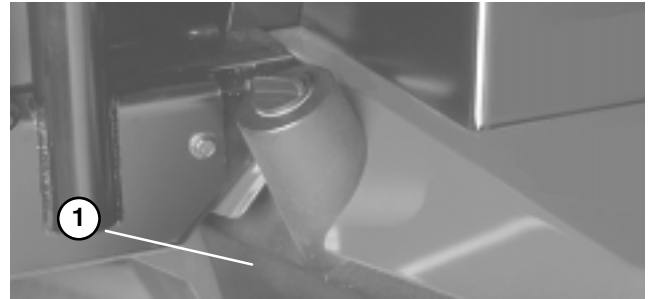

Figure 55
2. Remove drain plug from bottom of reservoir (Fig. 55) and let hydraulic fluid flow into drain pan. Install and tighten plug when hydraulic fluid stops draining.